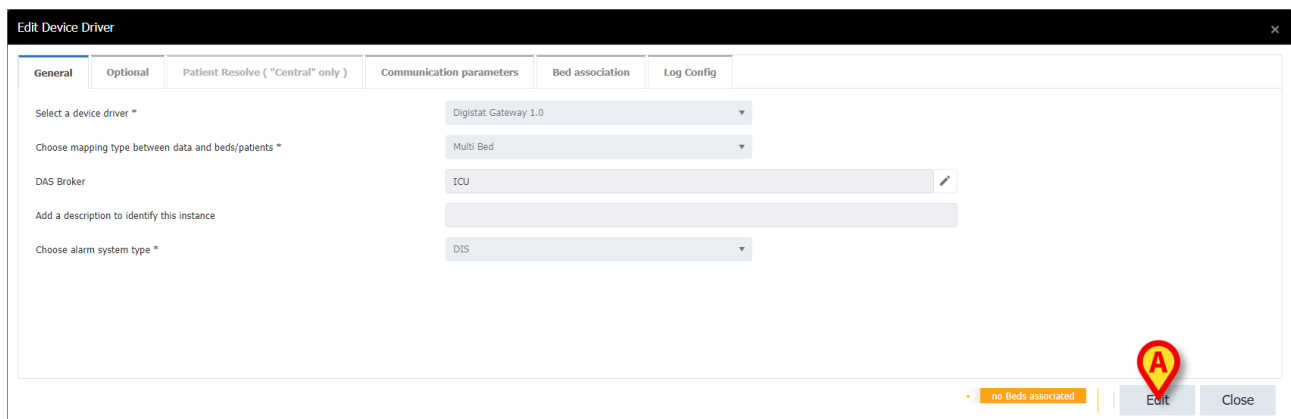
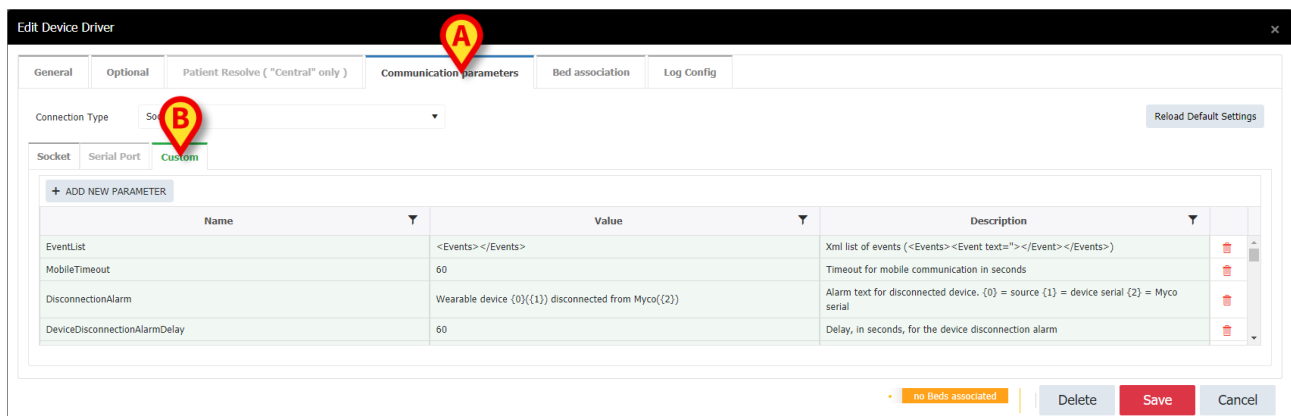

Fig 30
Fig 31
The **Edit device driver** window opens (Fig 30).
- Click the **Edit** button (Fig 30 **A**). Select the “Communication parameters” tab (Fig 31 **A**) and then the “Custom” tab (Fig 31 **B**).